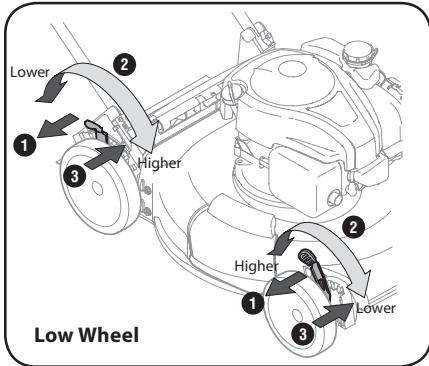
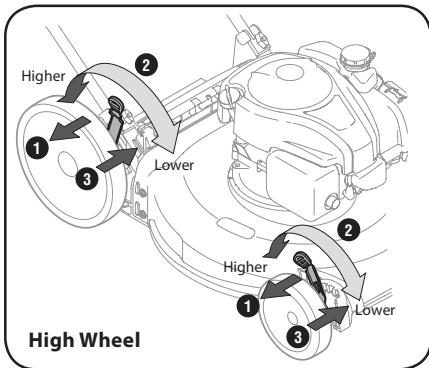

Figure 2-11
Figure 2-12
2. Move lever to desired position for a change in cutting height. See Figure 2-11 and Figure 2-12.
See Figure 2-11 and Figure 2-12.